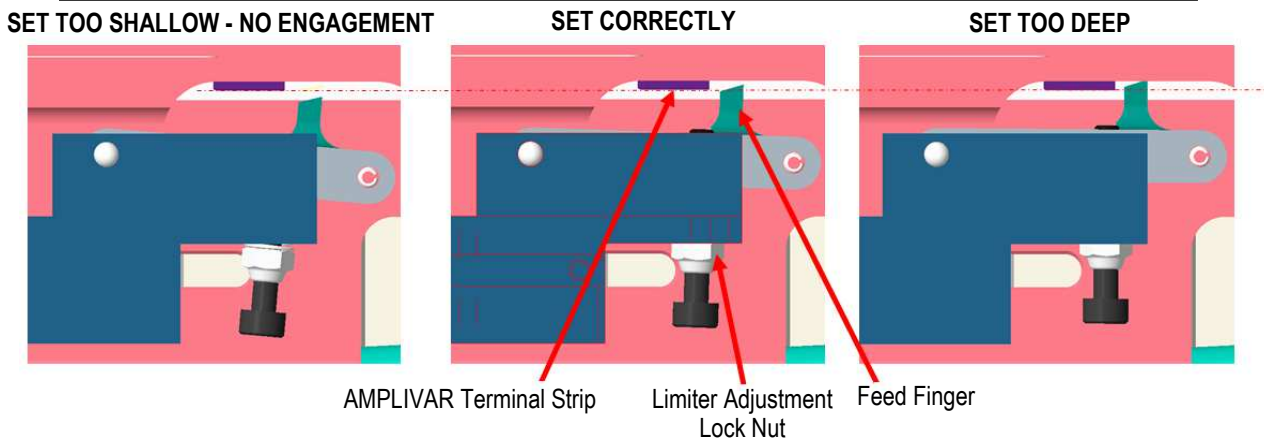

Figure 18
2. Load the terminal strip until it just reaches the feed finger. DO NOT load the terminal strip beyond the feed finger (see Figure 18).
3. Adjust the torque locking hex nut (986965-7) until the feed finger is adjusted (see Figure 18).
The drag must apply sufficient pressure to the terminal strip to prevent pullback of the strip by the feed finger when it is retracted to pick up the next feed point. If necessary, adjust as follows (see Figure 18):
3. Turn the adjusting wheel (2161481-1) to the appropriate "L" dimension for the terminal being processed (see Figure 18). Refer to drawing 2161490 for the "L" dimension for AMPLIVAR terminals.